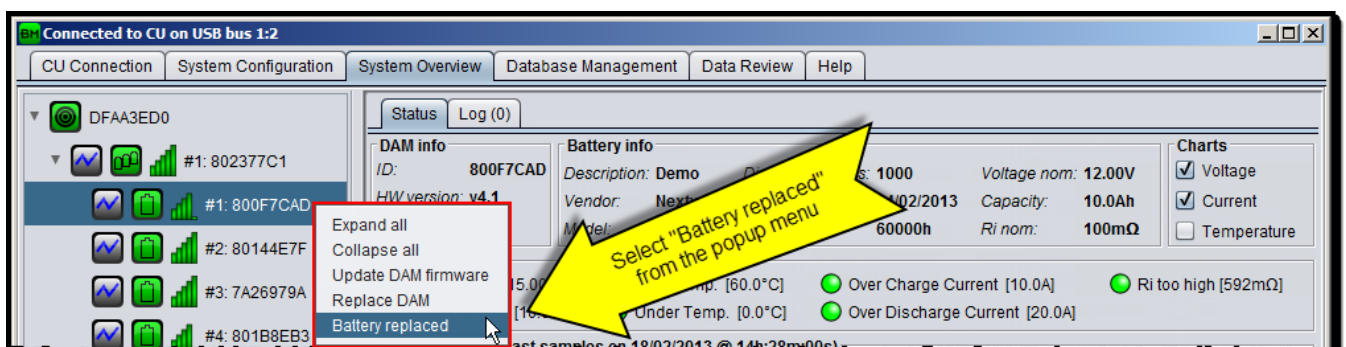

Figure 50: Replace battery
1. Right click on the battery icon as shown on Figure 50.